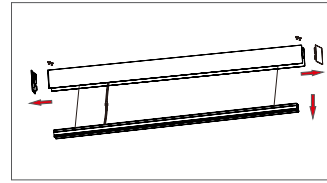

FIGURE 4-2
- II. For Middle-of-Run, remove both end caps and LED module. (Figure 4-2)